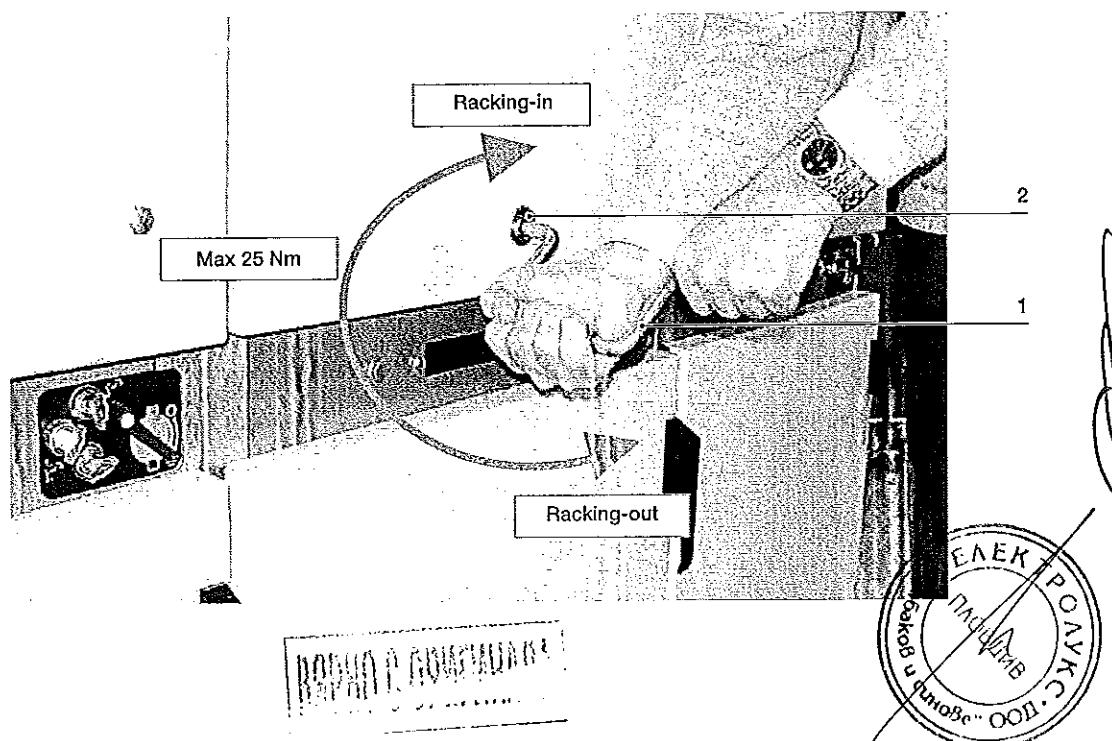

Fig. 9
For racking-in/racking-out of the switchgear, fully insert the lever (1) (fig. 9) in the appropriate seat (2) and work it clockwise for racking-in, and anti-clockwise for racking-out, until the limit switch positions are reached.
– Insert the manual racking-in lever (1) in the special coupling (2) Fig. 9, and take the motorized truck to about half its run between the isolated for test and the connected position. The torque needed to carry out truck handling is ≤ 25 Nm. In the case of accidental inversion of the truck motor power supply polarity, this operation allows a possible error in direction to be dealt with without any damage. Verification checks:
- Remove the manual lever (1) from the coupling (2) Fig. 9